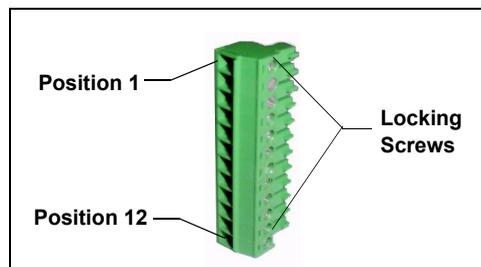

Figure D-6. 12-Position Connector Plug
1. Locate two twisted pairs of wires (P/N 043598) and 12-position connector plugs (P/N 923686) (see Figure D-6) in the ICS-1500 and AS50 Ship Kits.